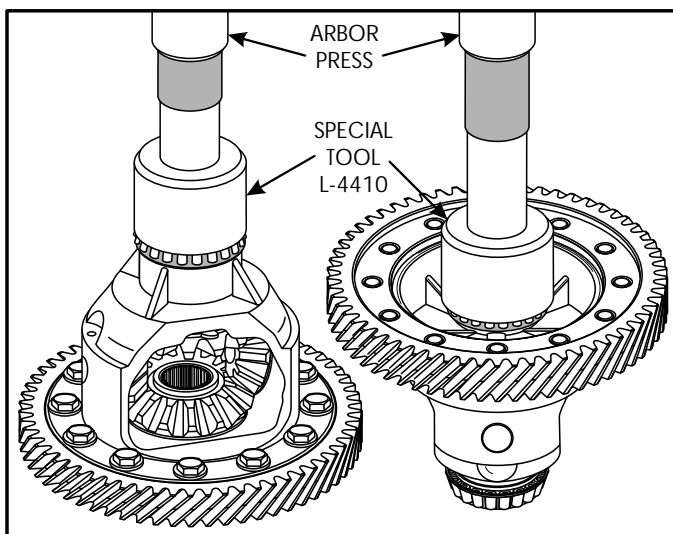

Figure 146
2. Install new bearing cones on the differential carrier using special tool L-4410, and press on with an arbor press, as shown in Figure 146. Again the same tools are used for both sides.